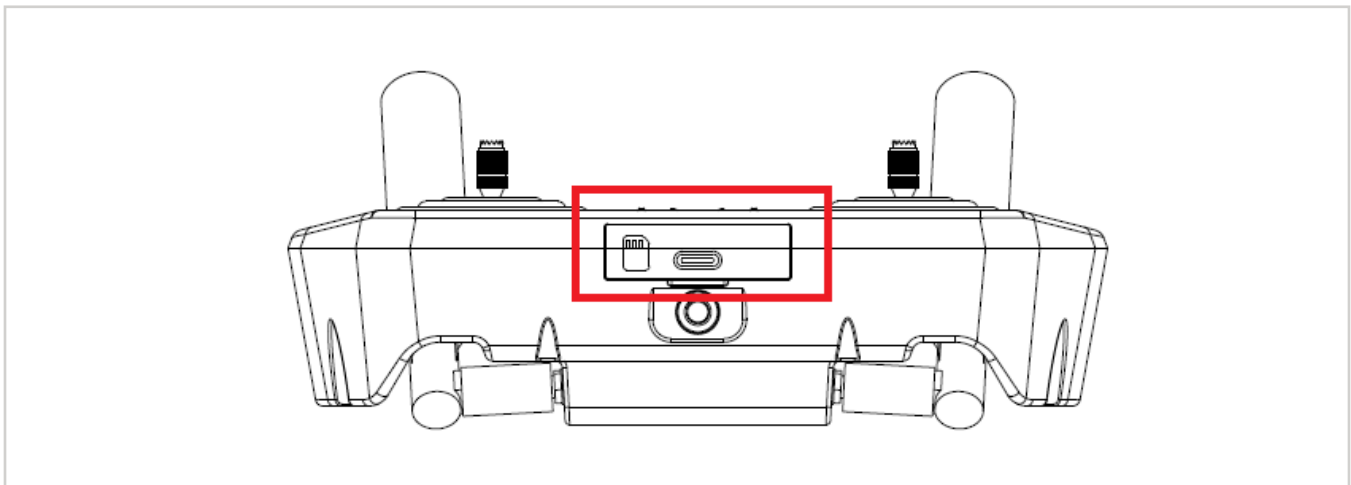

FIGURE 4.D CONTROLLER MICROSD CARD SLOT (14) AND USB-C CHARGER PORT (15)
To charge the controller battery, open the protective cover to access the USB type C charger port, as shown in Figure 4.D, item 15. Connect the provided USB type C charging cable from wall power to the controller. The controller is a Quick Charge Compatible device. After the charging is completed, remove the charging cable, and lose the protective cover over the charging port. The controller battery should operate for approximately 210 minutes before requiring recharging.